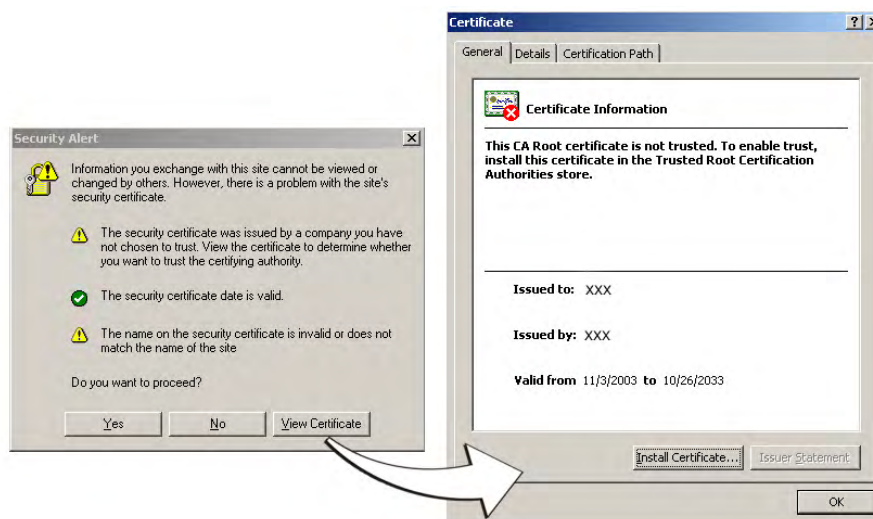

FIG. 78 Security Alert and Certificate popups
4. The user is then presented with a Security Alert popup window and Certificate information (FIG. 78).
- The date period given to the certificate has expired. CA-approved certificates typically come with a 2 year window of validity. Self generate certificates come defaulted with a 30 year window of validity (FIG. 78).